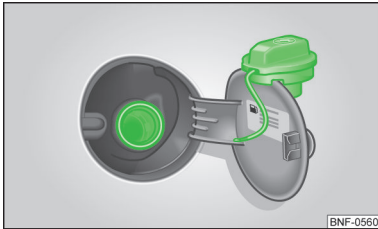

Fig. 92
The correct fuel grades for your vehicle are specified on the inside of the fuel filler flap » Fig. 92 on page 104.
- Unscrew the filler cap by turning it in a counter-clockwise direction and place the cap onto the top of the fuel filler flap » Fig. 92.